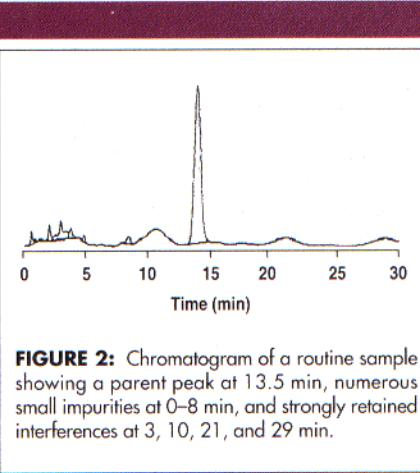

FIGURE 1: Chromatogram showing a sharp peak at 13.5 min and several broad peaks at 10, 21, and 29 min.
In November's "LC Troubleshooting" column (1), I described "signature chromatograms." These chromatograms are so characteristic of a problem that they can identify it reliably. Figures 1 and 2 show examples of signature chromatograms for strongly retained peaks. In each case, a peak that is much broader than the surrounding peaks is present. For LC separations, all the peaks in a given region of the chromatogram should have approximately the same peak width, so significantly
With isocratic separations, the peaks gradually get broader as the retention times increase, whereas gradient separations yield peaks that are of similar width throughout the chromatogram. In Figure 1, peaks 3 and 4 are noticeably broader than neighboring peaks 1 and 5. The simplest way to confirm the presence of strongly retained peaks is to extend the run. If the analyte corresponding to the extra peak is present in every sample, you will observe a peak appearing at regular intervals, corresponding to the run time of the earlier injections, even if no injection was made. Let's examine the chromatogram of Figure 1 and see what we can learn from it.
I received the chromatogram in Figure 1 from a well-known pharmaceutical company. The user was synthesizing some analogs of an existing product. The separation was satisfactory for his use, successfully isolating the parent compound (peak 2) from two minor impurities (peaks 1 and 5). The mobile phase was a ternary mixture of ~10% methanol, 10% acetonitrile, and 80% citrate buffer. The buffer strength and pH were reasonable. The separation used a 25 cm × 4.6 mm C18 column operated at a 1-mL/min flow rate.
drew aliquots from the reaction vessel and injected them to follow the reaction. In the middle of the afternoon, he obtained the chromatogram in Figure 1. By the time he noticed the problem peaks, the reaction had progressed, so he was unable to obtain a duplicate aliquot, and all the original sample had been used. So he was unable to rerun the sample to satisfy the Rule of Two.
Determination of the injection point of a strongly retained peak is fairly simple if you can measure the width of the peak in question and those of some neighboring peaks. First, we determine the plate number for the normal peaks. We assume that the late peaks have approximately the same plate number. (This is not totally true, because we have ignored extra-column effects, but the assumption is good enough for this approximation.) After we know the plate number and the peak width, we can calculate its retention time. Let's see how this works using the chromatogram of Figure 1.
FIGURE 1: Chromatogram of a reaction mixture. Peaks 1 and 5 are minor impurities, peak 2 is the product compound, and peaks 3 and 4 are strongly retained peaks from an earlier injection.
TABLE I: Retention and Peak Width Data for Figure 1
An alternative method is to wait until the last peak of interest is eluted and then change the mobile phase to quickly elute the unwanted materials. The chromatogram of Figure 1 appears to end at ~ 150 min, so a steep gradient or step change to strong solvent should quickly flush the unwanted material from the column. I would try flushing with ~ 10 column volumes (~ 25 mL of mobile phase for the present column) of a 40% methanol, 40% acetonitrile, 20% citrate buffer mobile phase. Then return to the starting conditions and reequilibrate before the next injection.